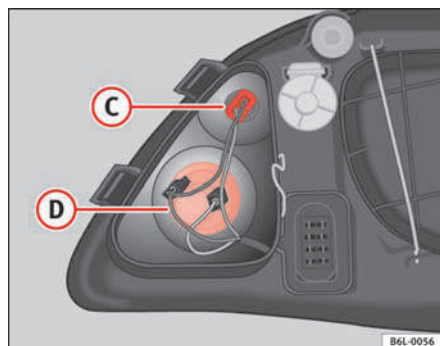

Fig. 147 Side lights
- Pull on the cables to release the lamp holder from the casing ③ ⇒ fig. 147.